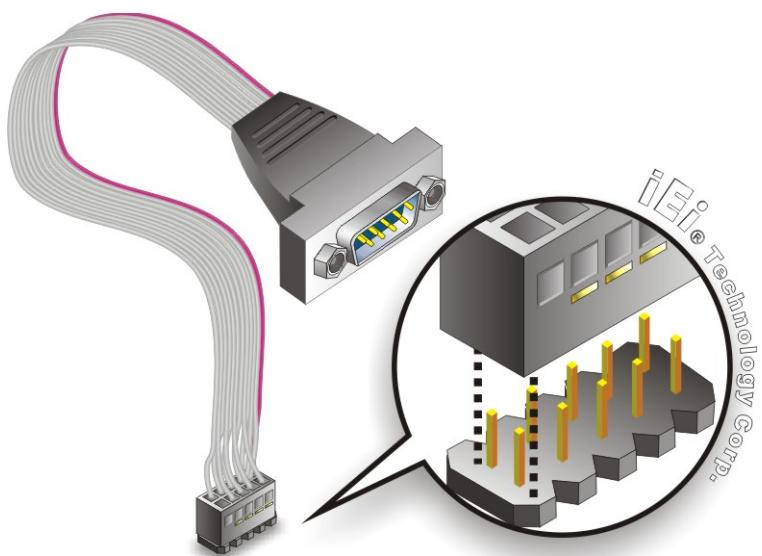

Figure 4-14: Single RS-232 Cable Installation
Step 2: Insert the cable connector. Insert the connector into the serial port box header. See Figure 4-14. A key on the front of the cable connectors ensures the connector can only be installed in one direction.